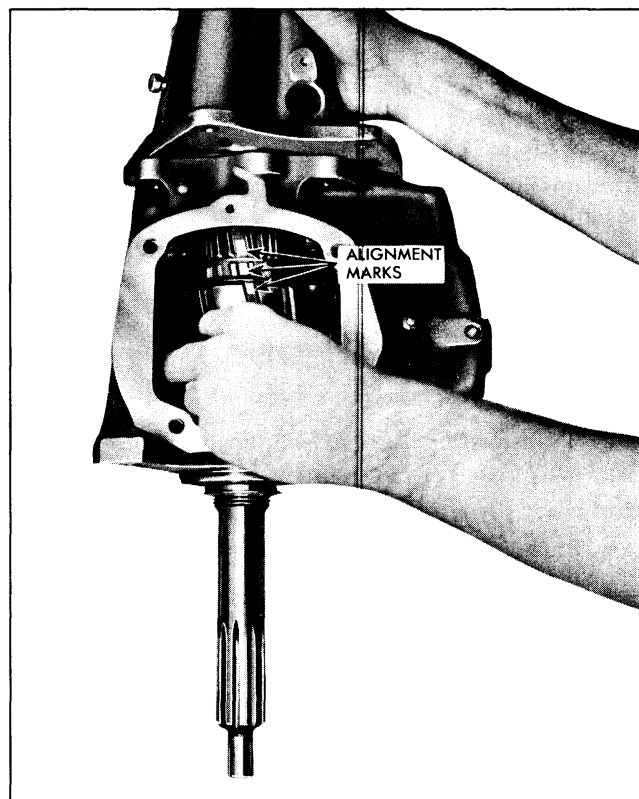

Fig. 7-37 Installing Mainshaft in Transmission Case
4. Lower mainshaft assembly through opening at rear of transmission case, making certain two inner lugs of synchronizing ring engage previously marked grooves of mainshaft and second speed gear (Fig. 7-37).